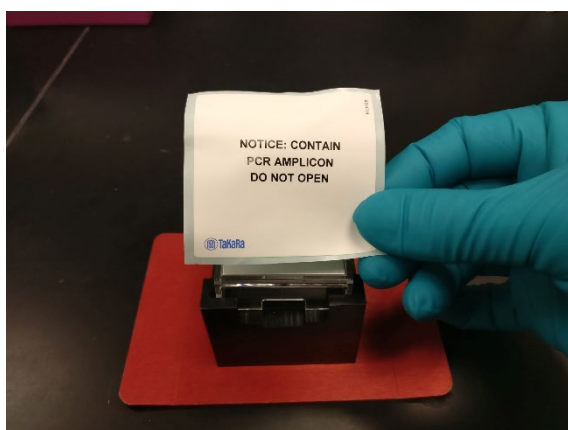

Figure 98. Securing the collection module with Collection Film.
5. Seal the chip and the top of the collection module with a supplied Collection Film (Figure 98, below).